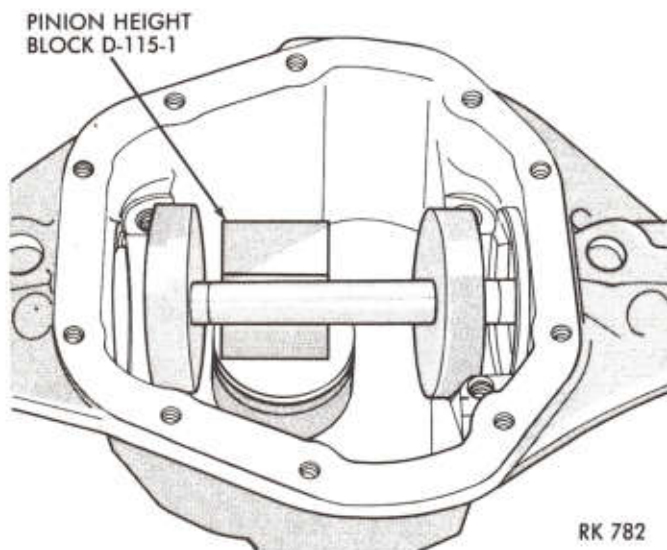

Fig. 17—Pinion Height Block Positioned Against Arbor
(3) Place pinion height block Tool D-115-1 on the top of master pinion block and against arbor (Fig. 17).
(4) Position gauge assembly, Tool D-115-2 gauge